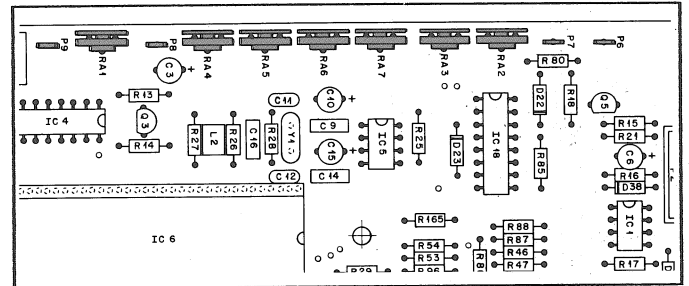

Fig. 8
- Connect the oscilloscope to test points P6 and P7 (ground) of the CONTROL BOARD (Fig. 8).
- Remove oscilloscope probe and adjust the following tape tensions with trimmer potentiometers RA7, RA6, RA5 (Fig.8):
- Connect the oscilloscope probe to test points P8, P9 (ground) on the CONTROL BOARD (Fig.8).